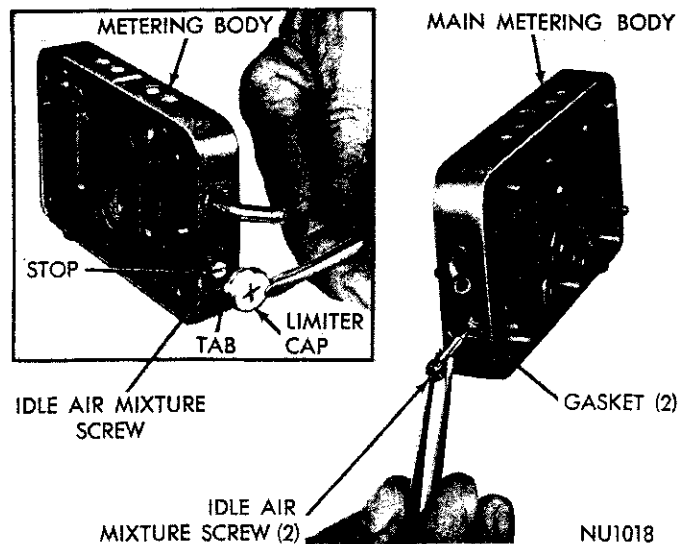

Fig. 19—Installing Idle Air Mixture Screws and Gaskets
(3) Press a new gasket in each of the idle air mixture ports, then thread idle air mixture screws through gasket and into body, using a small screwdriver. Lightly seat screws, then back off number of turns (from seat) counted at disassembly (Fig. 19).
(4) Install new plastic caps over idle screws, with tabs on caps against stops in bore (Fig. 19).